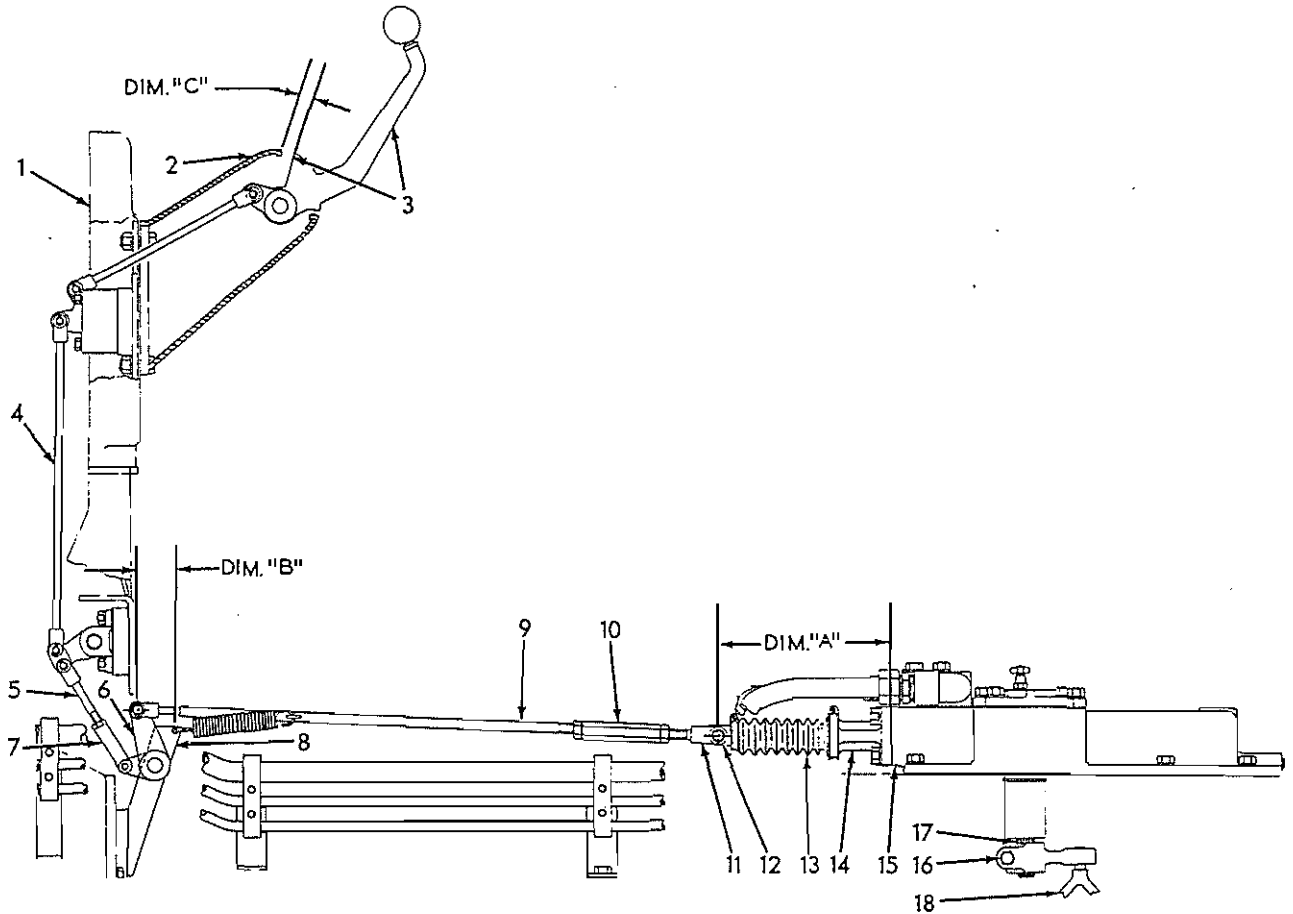

Fig. 23 -- HD11 B (Eff. S/N 10001) Steering Control Linkage (T-41915)
Refer to Fig. 23 and push spool valve (12) solidly against piston in control valve (15); be certain spool and piston are pushed to rear as far as possible, to take all slack out of actuating lever (16) and throwout yoke (18).
Measure distance from front machined face of control valve (15) to center of hole in front end of spool valve (12); this measurement must be 8-15/16" + or - 7/16" (refer to Fig. 23, DIM. "A").
Refer to Fig. 23; hold spool against piston and connect control rod (9) to spool (12); adjust length of control rod by turning adjusting nut (10) to obtain DIM. "B" (1-1/8" + or - 1/32") from center of yoke pin to center of spring attaching hole in bracket (8).
Subsequent adjustments for free travel (DIM. "C") should be made when free travel diminishes to 1/4"; subsequent free travel adjustments are made by turning adjusting nut, Fig. 23 (10) to shorten control rod (9).